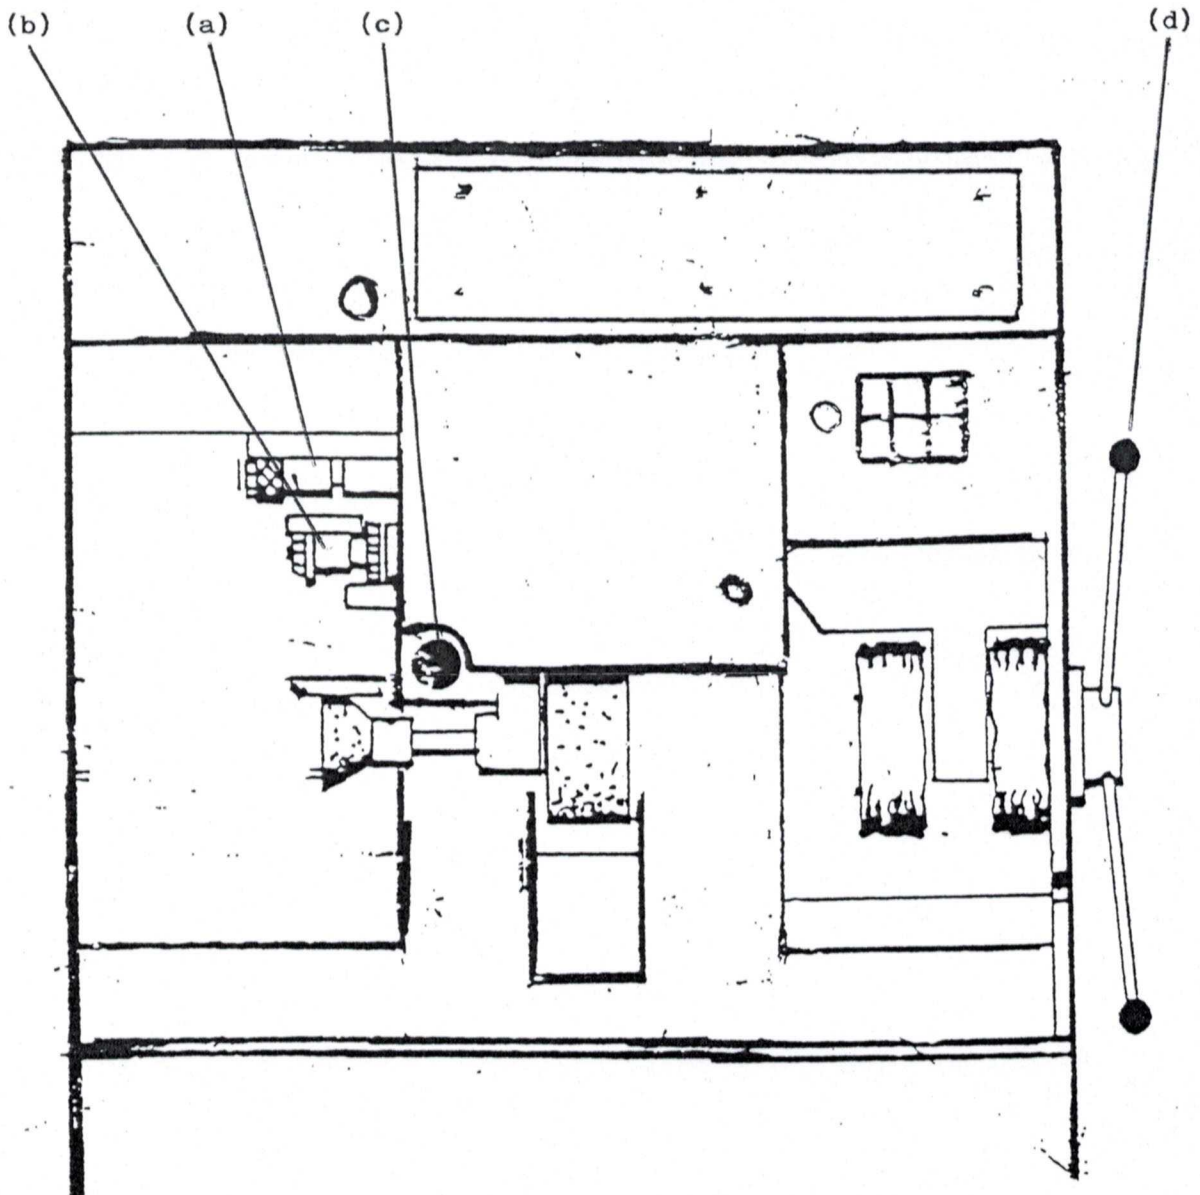

Fig. 5
6.1 Manual Controls - mechanical which can be operated when mechanism running or stationary (see fig. 5).
- (a) Scouring Bands. To change the band, lift the front cover and secure by means of flap prop. Pull tension lever (a) forward. Slip the band off the driving pulley and contact wheel (b). Replace band, ensuring it will run in the same direction as arrow printed on inside of the band. Re-tension the band by releasing the tension lever (a). Lower the front cover and spin band by hand to ensure that there is approximate band alignment. Switch on machine and adjust band alignment by means of adjusting screw (f in fig. 5) using special key in kit.